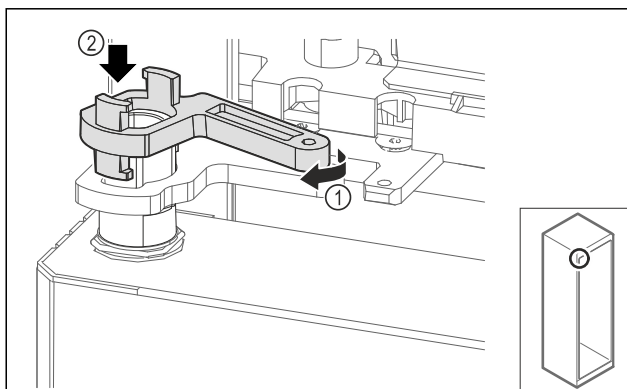

Fig. 65
- ▶ Turn the swap bearing block lock slightly and Fig. 65 (1) place it on the sleeve Fig. 65 (2).